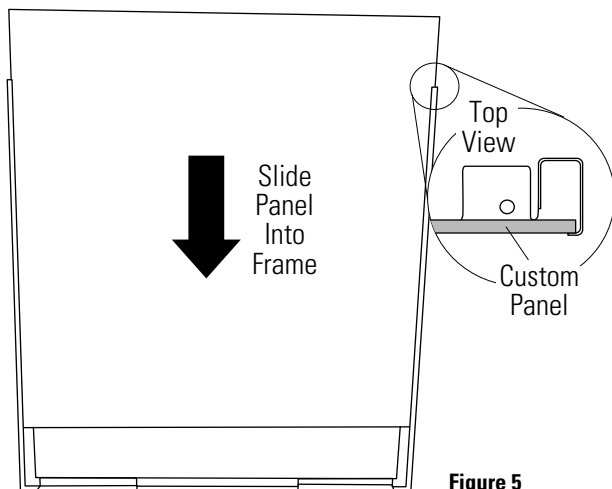

Figure 5
- Slide the 1/4" custom panel into the channel between the trim and the steel panel (Figure 5).